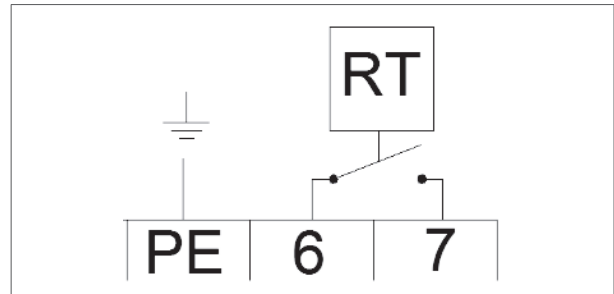
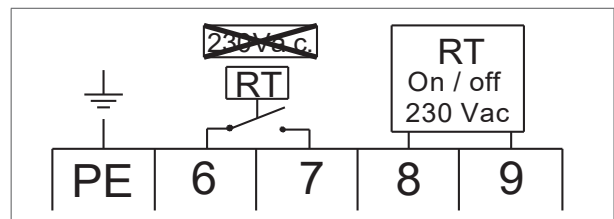

Figure 6 - ON/OFF thermostat connection
Figure 8 - ON/OFF 230 V thermostat connection
- Connect the two thermostat wires to terminal 6 and 7 (see figure 6 or the electrical wiring diagram in §11). This is a 24 V connection for the thermostat signal.
- Connect the 230 V signal of the external thermostat to terminals 8 and 9 (see figure 8). The terminals 6 and 7 should have been connected to the relay of the thermostat kit (see figure 6 or the electrical wiring diagram in §11).